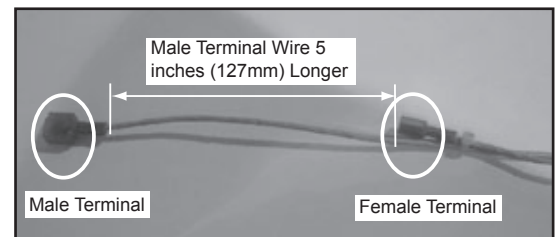

Figure 22.3
6. Re-attach this wire using the small zip ties supplied in roughly the same locations that you removed earlier. Leave the male spade terminal 5 inches (127mm) longer than the female spade terminal that is already attached to the harness (**Figure 22.3**).